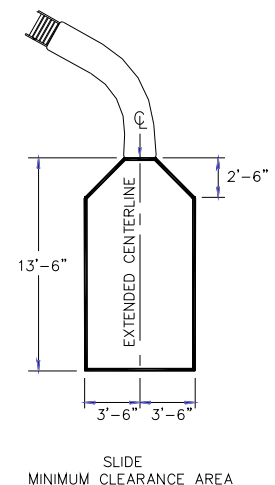

FIG. 30
- A. The minimum clearance distance on either side of the extended centerline of the slide runway shall not be less than three feet six inches (3'-6") at a point no less than two feet six inches (2'-6") from the exit lip of the slide and extending a distance of thirteen feet six inches (13'-6") in front of the slide as shown in **FIG. 30.**